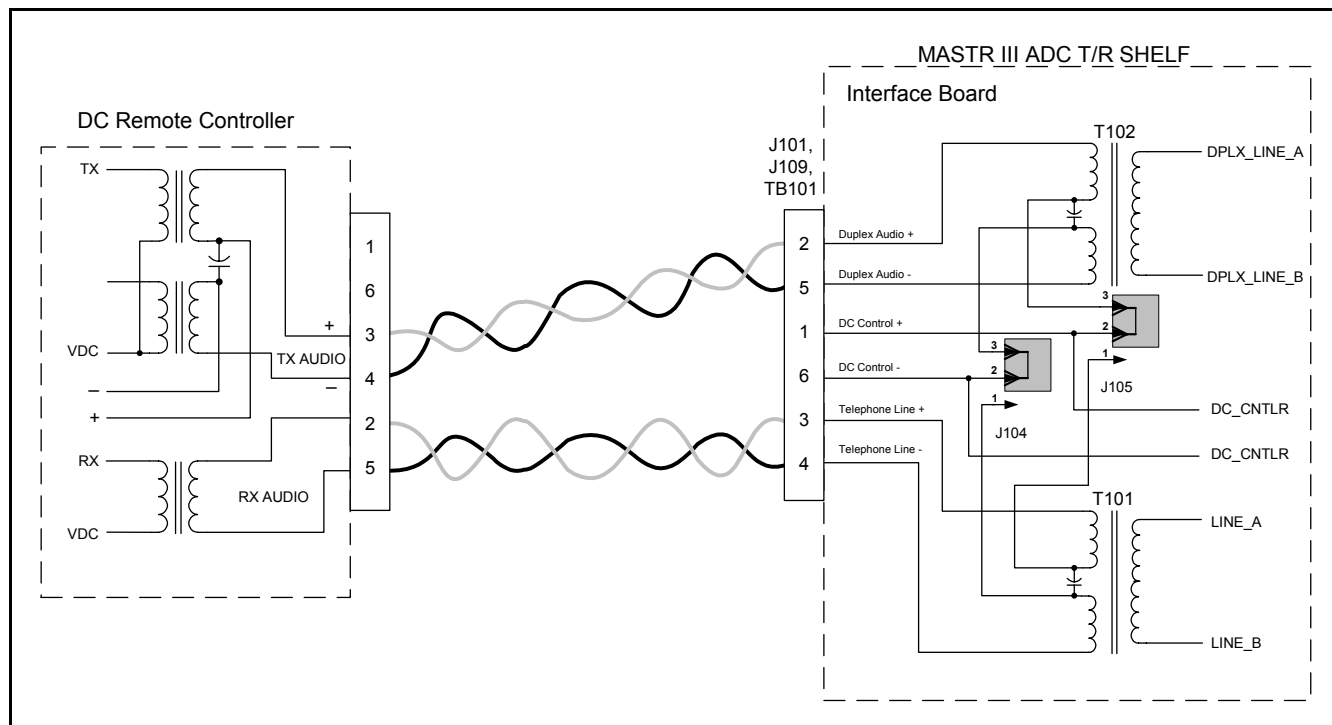

Figure 7-4: Method 4 – Full Duplex
2. Connect the transmit metallic pair to TB101-2 (black) and TB101-5 (yellow). Refer to Figure 7-4.